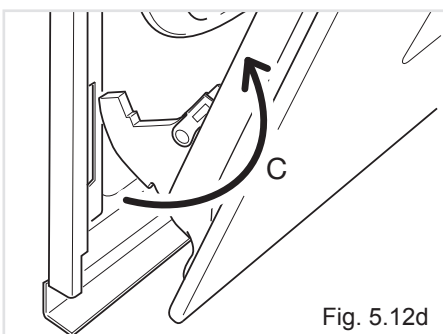

Fig. 5.12d
- Withdraw the hinge hooks from their location following arrow "C" (fig. 5.12d).